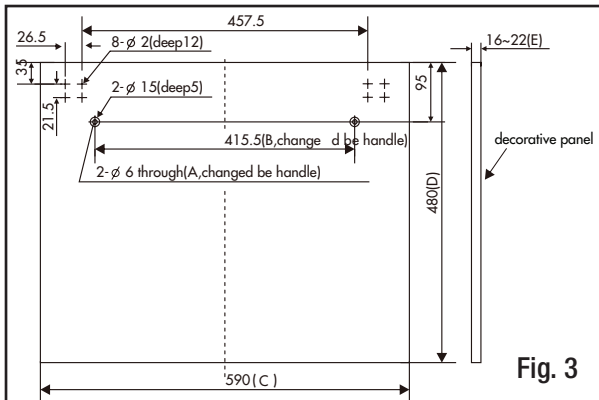

Fig. 3
2. The weight of the decorative door (front) panel should be between 3-4 kg. The dimensions should be as indicated below (Fig. 3).